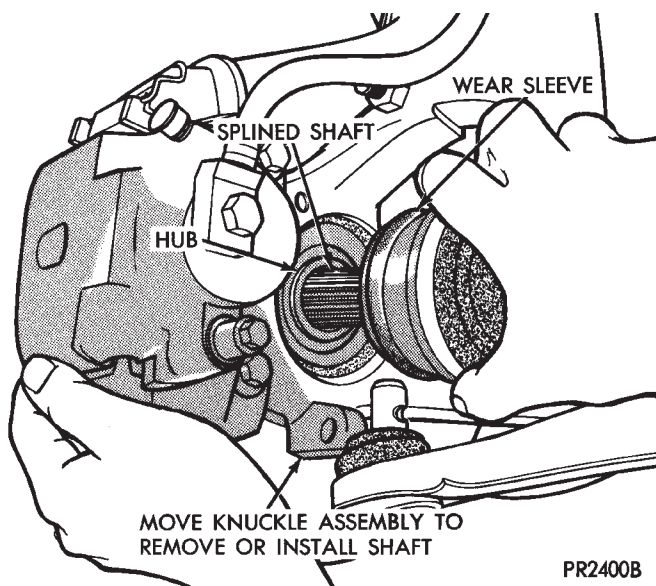

Fig. 9 Separate Outer C/V Joint Shaft from Hub
- (4) Separate outer C/V joint splined shaft from hub by holding C/V housing while moving knuckle(hub) assembly away (Fig. 9).